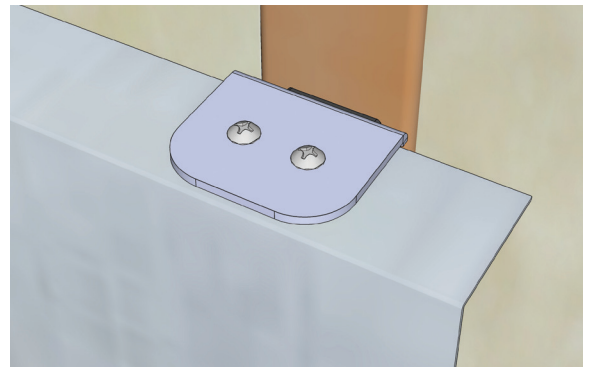

Figure 3
5. Secure track to **GenieClip Mount** with #10 x 13 mm sheet metal screws (**Fig. 3**).